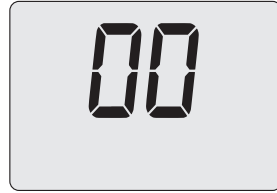

Fig. 8.12
- Press 16 (Fig. 8.9) to show the value of parameter P07 on the LCD display (Fig. 8.12).